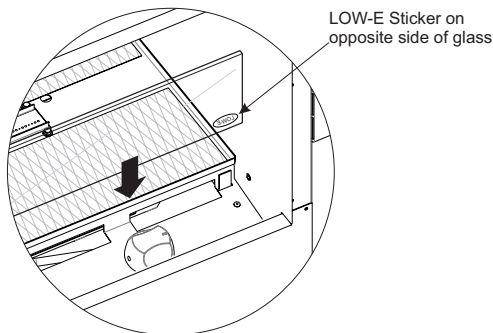

Figure 24
2. Install the glass wind panel (two used on see-through fireplaces). The glass panel has a low emission (low-E) coating applied to one side. The panel must be installed with the low-E coating facing the burner. The panel will have a sticker located in the bottom corner of the side which has the low-E coating. Install the glass panel with the sticker facing the burner and the bottom of the panel. **See Figure 24.**